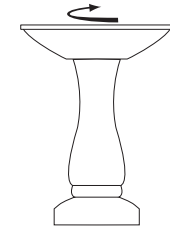

Figure 4
5) Place the basin on the Pedestal by aligning the metal plate on the bottom of the basin with the slots in the neck of the Pedestal. Rotate the basin clock-wise to lock it in place (Figure 4).